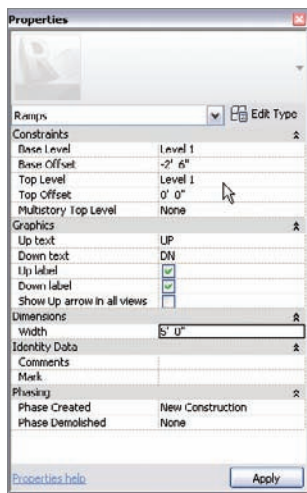

FIGURE 10.84 Setting the properties
12. Set Base Offset to -2'-6", as shown in Figure 10.84.
14. Set Width to 5'-0" (see Figure 10.84).